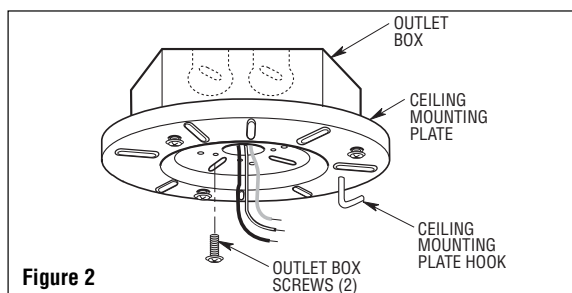

Figure 2
2. Pull the electrical supply black, white, and ground wires through the center opening of the ceiling mounting plate before securing the plate to the outlet box as shown in Figure 2.
3. Position the ceiling mounting plate onto the outlet box and secure using the two outlet box screws, supplied with outlet box (Figure 2).